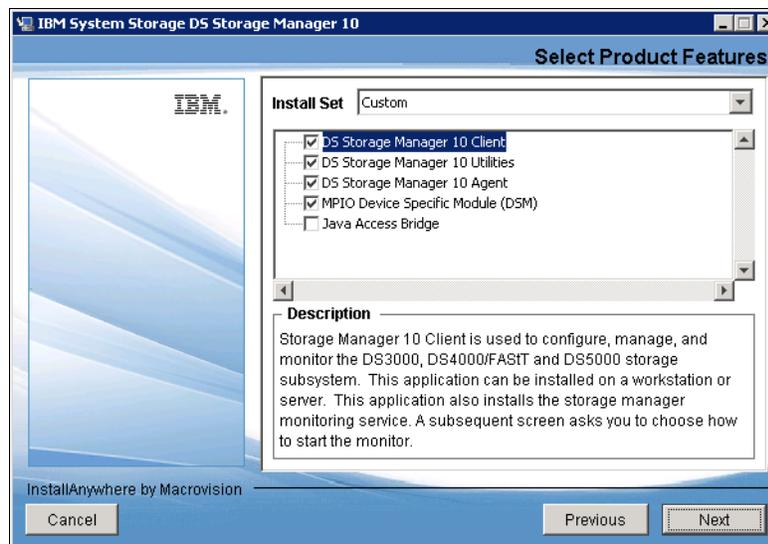

Figure 4-4 InstallAnywhere: Select Storage Manager components
- b. Decide what type of installation you want. Two additional choices are offered: Typical (Full Installation) and Custom. As the name indicates, Typical (Full Installation) installs all components, and Custom installation lets you choose the components, as you can see in Figure 4-4.